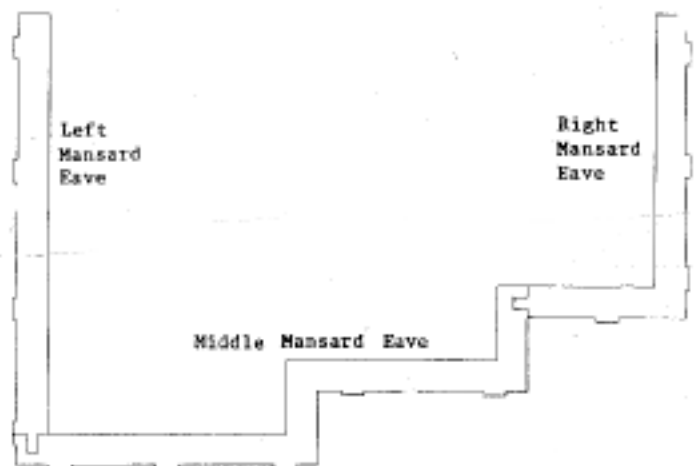

Figure 33
2. Glue tabs into grooves (no splice pieces) as in Figure 33.